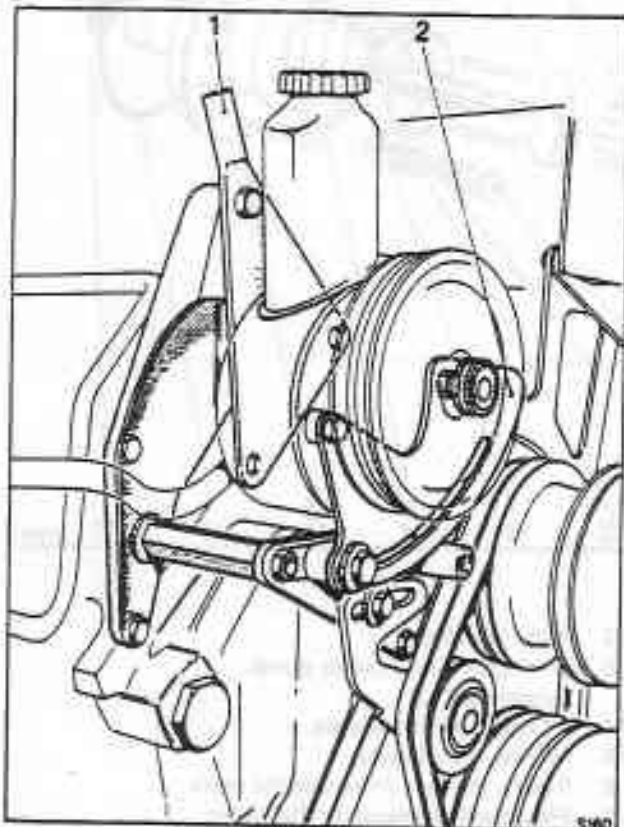

Fig. N2-3 Pump mountings and belt tensioning
2. Slacken the pump belts by loosening the locking screw in the slotted adjustment bracket and the nut on the pivot bracket at the rear of the pump (see fig. N2-3).